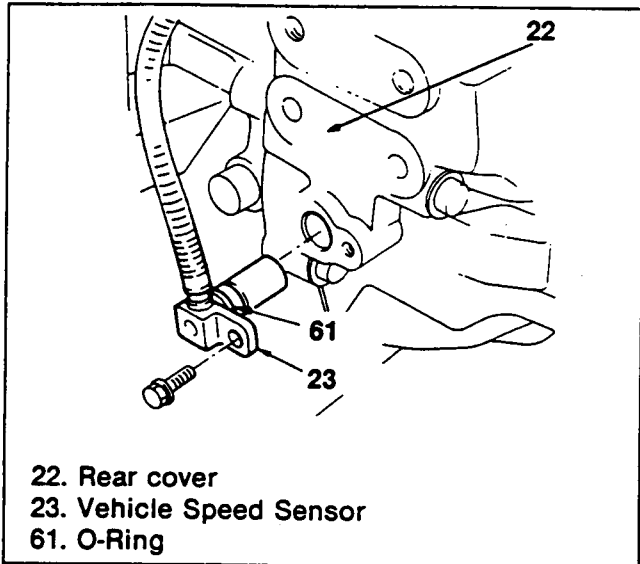

Figure 37. Vehicle Speed Sensor Removal
Rear Cover (Figures 37, 38, 39, 40 and 41)
1. Remove the bolt, and then the vehicle speed sensor (figure 37).
2. Remove the O-ring (figure 37).